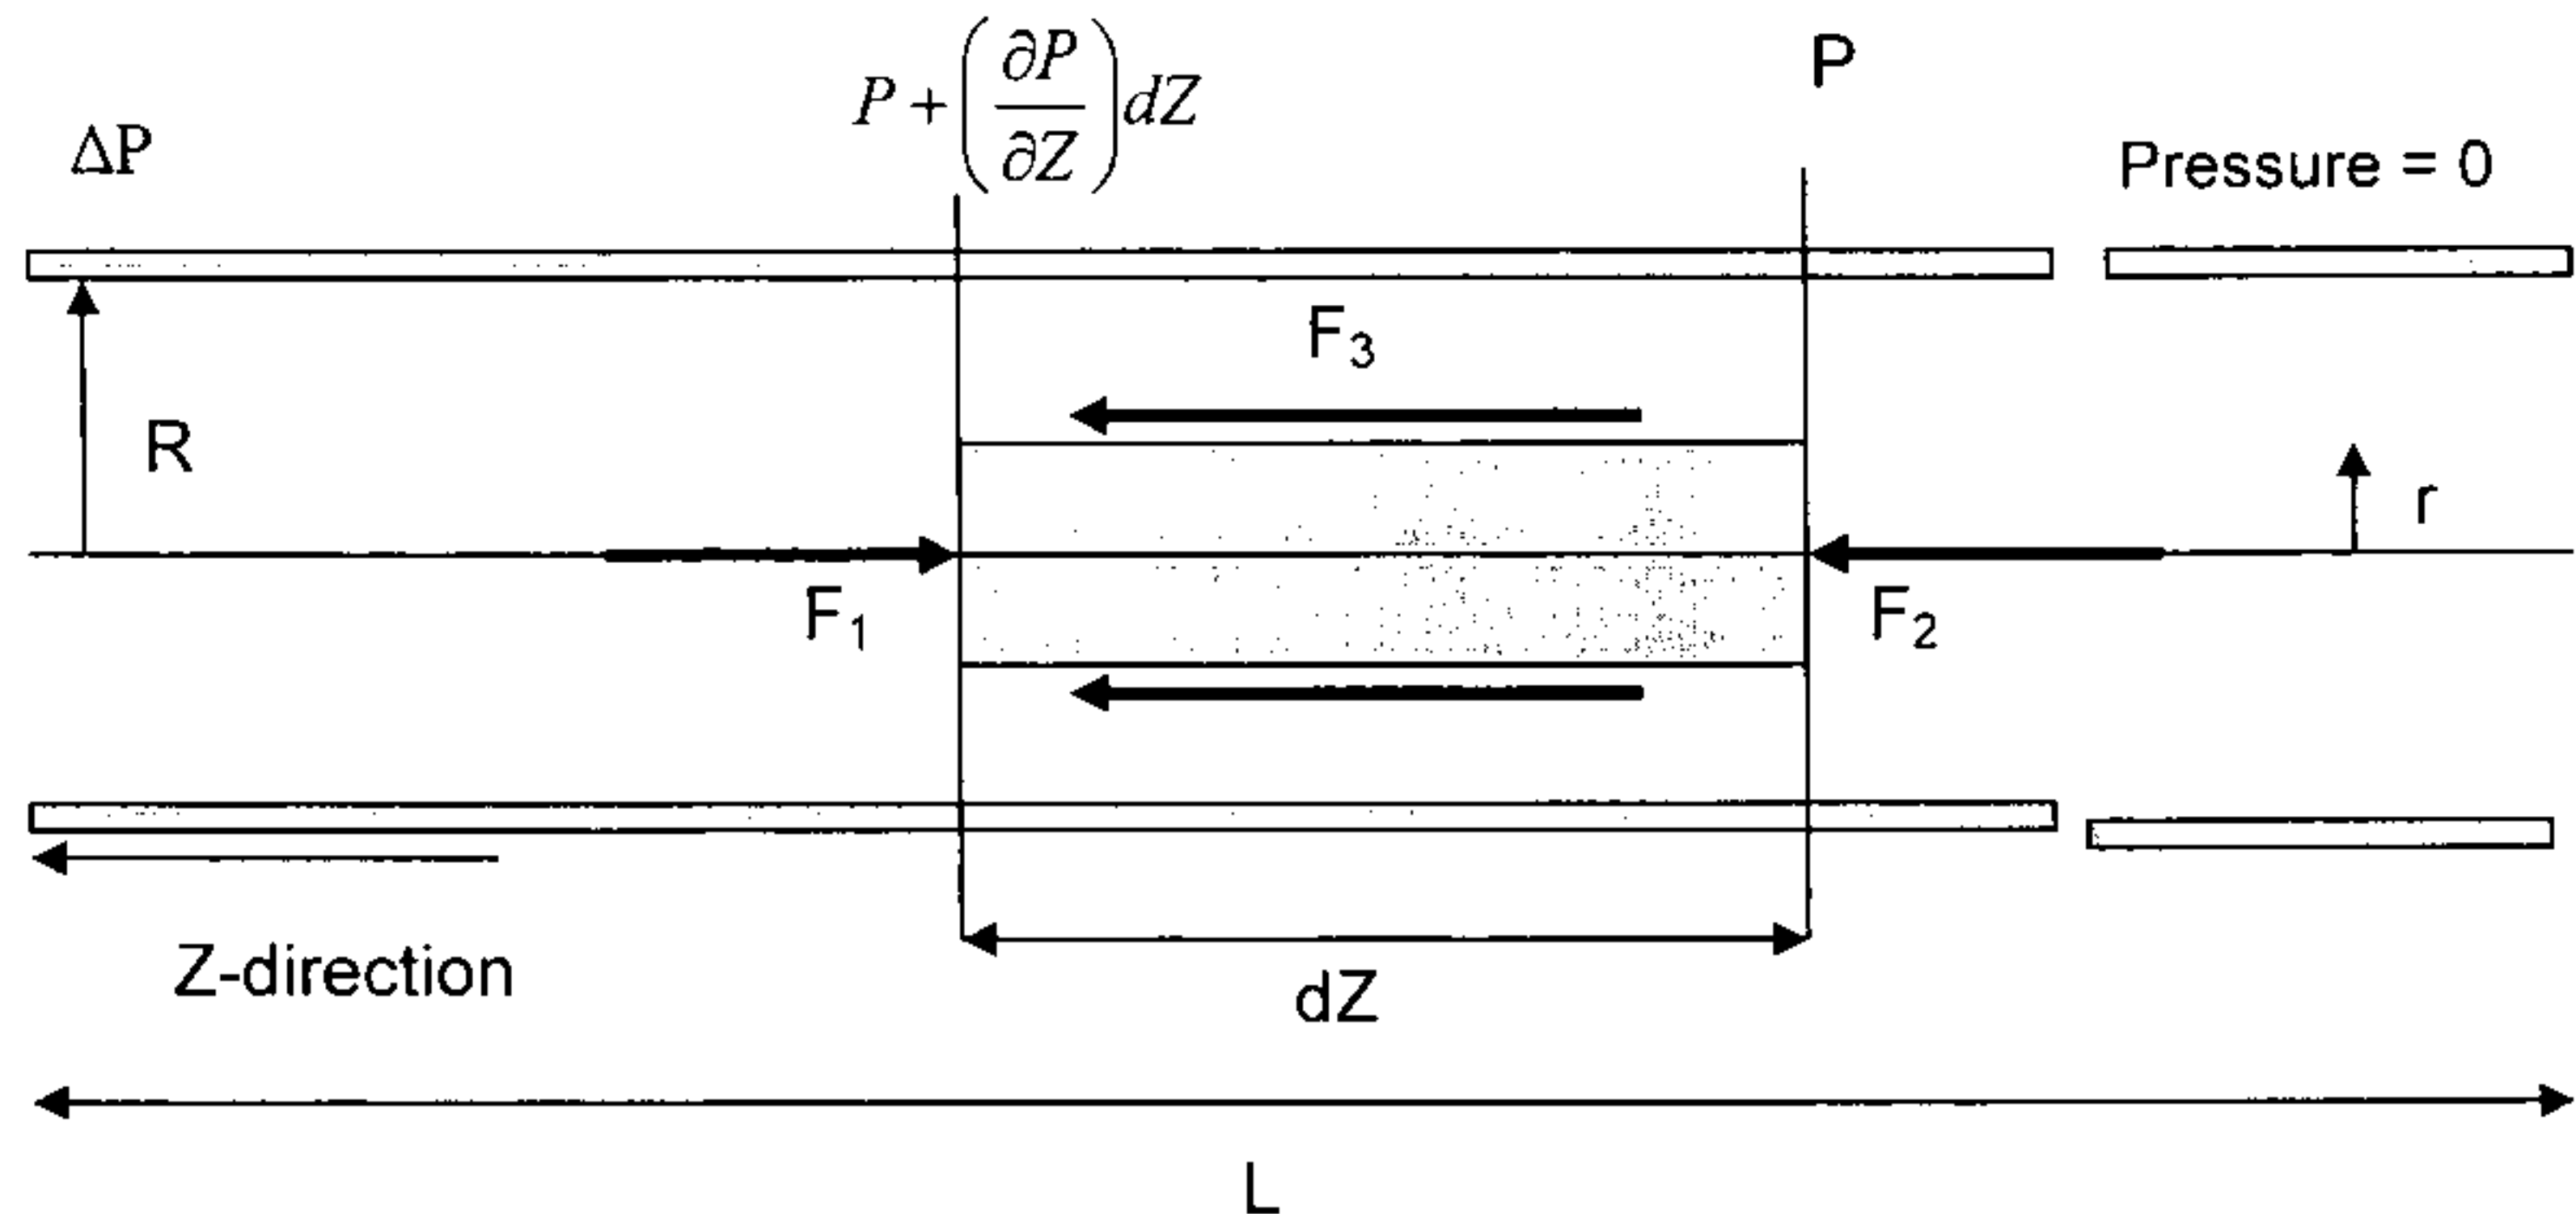

Figure 1 - Balances of forces on a fluid element moving along with the flow in a pipe.
- [d] Construct the expressions for shear rate at wall for a Newtonian fluid flow through a pipe (Figure 1). State your assumptions.